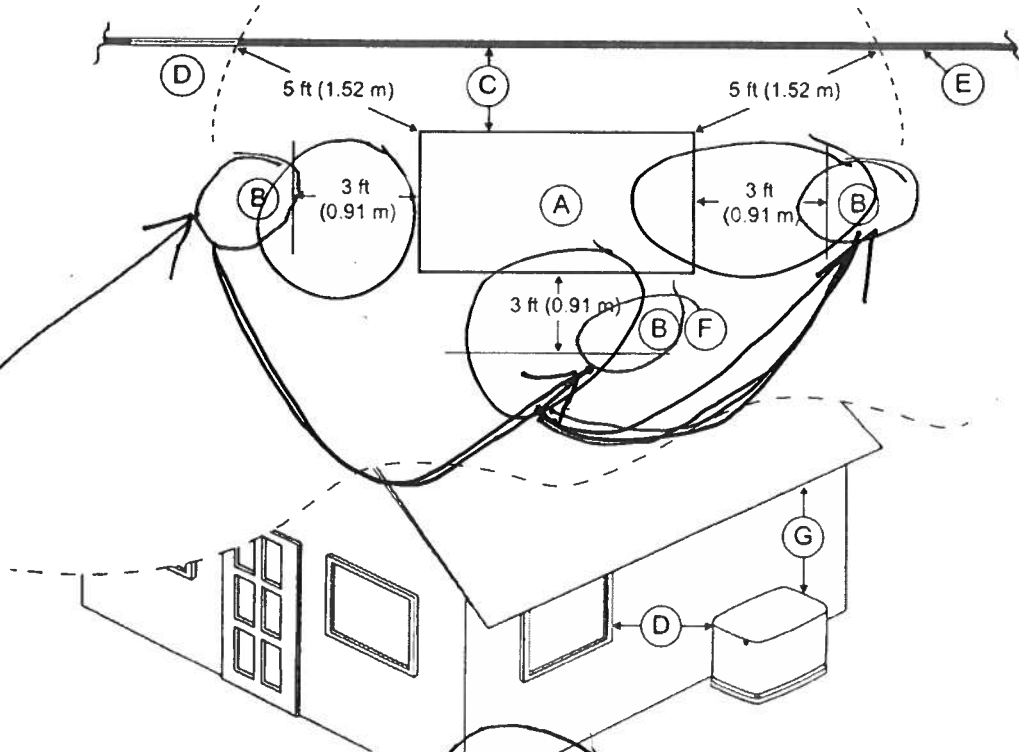

Figure 3-1. Installation Clearances
Install the generator set, in its protective enclosure, outdoors where adequate cooling and ventilating air is always available (Figure 3-1). Consider these factors:
NFPA 37 is the The National Fire Protection Association's standard for the installation and use of stationary combustion engines. Its requirements limit the spacing of an enclosed generator set from a structure or wall (Figure 3-1).
NOTE: Southwest Research Institute testing approves 18 in (457 mm) installation minimum from structure (Figure 3-1, C). Southwest Research Institute is a nationally recognized third party testing and listing agency.
Based on this testing and the requirements of NFPA 37, Sec 4.1.4, the guidelines for installation of the generators listed above are changed to 18 in (457 mm) from the back side of the generator to a stationary wall or building (C). For adequate maintenance and airflow clearance, the area above the generator should be at least 5 ft (1.52 m) with a minimum of 3 ft (0.91 m) at the front and ends of the enclosure. This includes trees, shrubs, and bushes. Vegetation not in compliance with these clearance parameters could obstruct air flow. In addition, exhaust fumes from the generator could inhibit plant growth. See Figure 3-1 and the installation drawing within the owner's manual for details.